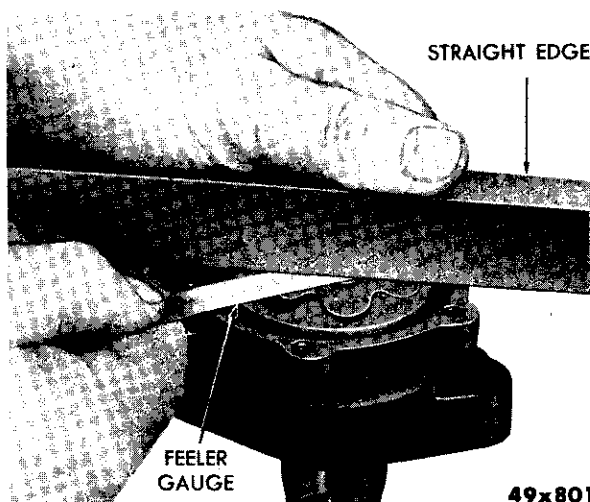

Fig. 66—Measuring Clearance Over Rotors
- (7) Measure thickness and diameter of the outer rotor with a micrometer. If the thickness is .748 inch or more, and if diameter is 2.244 inches or more, the rotor is satisfactory. However, if the rotor measures less than these dimensions, replace the rotor.
- (8) Measure thickness of the inner rotor with a micrometer. If thickness is .748 inch or more, rotor is satisfactory. However, if thickness is less than this dimension, remove rotor from shaft, discard it and assemble new rotor to shaft.
- (9) Slide rotors into pump body.
- (10) Place a straightedge across the pump body between the screw holes. With a feeler, measure the clearance between the top of rotors and the straightedge (Fig. 66). Clearance should be .004 inch or less. If clearance is more, discard pump body and use a new one.
- (11) Press the outer rotor to one side against the pump body and measure the clearance between the rotor and body at the